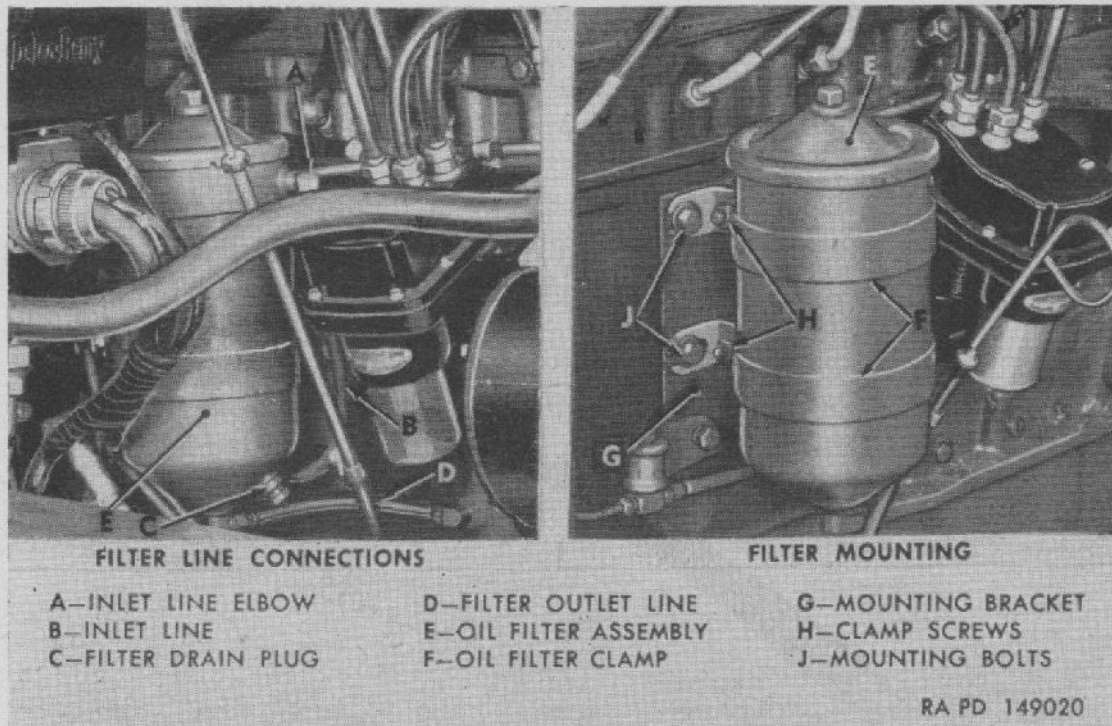

Figure 37. Oil filter installed.
- (13) Fill cooling system (par. 126*a*).
- (14) Check valve clearance at each cylinder with piston on compression stroke (both valves closed). Make initial adjustment of valves before starting engine. Set intake-valve clearance at 0.012 inch and exhaust-valve clearance at 0.020 inch.
- (15) Start engine and run at fast idle until normal minimum operating temperature (160° F) is reached; then check cylinder head bolt tension ((2) above).
- (16) Make final check of valve clearance; adjust if necessary and install valve cover (par. 94*d* and *e*).
- (17) Install eye nut and lock washer on cylinder head special bolt.
a. GENERAL (fig. 37). Replacement-element type oil filter is mounted on bracket at right side of engine to rear of ignition distributor. Two band-type clamps attach filter to mounting bracket. A limited quantity of engine oil enters filter through inlet line which is connected to oil gallery at left side of engine. Filtered oil is returned to engine crankcase through filter outlet line installed between fitting at bottom of filter and fitting at engine crankcase. Filter housing is fitted with drain plug.
c. FILTER REMOVAL (fig. 37).
- (1) Remove drain plug from filter and drain out oil.
- (2) Disconnect inlet and outlet lines at fittings on filter.
- (3) Remove four filter mounting bolts. Remove filter and clamp assembly from engine.
- (4) To remove clamps from filter, loosen clamp screws and slide clamps off lower end of filter housing.
- (5) Remove two filter bracket-to-cylinder-block bolts at lower edge of bracket. One bolt also holds oil-pressure-sending-unit bracket and other holds oil-level-gage-tube bracket. Remove governor line clip from top of bracket. Remove filter bracket and push rod cover screws at top of bracket and remove filter bracket from engine.
d. **FILTER INSTALLATION** (fig. 37).
- (1) Hold oil filter mounting bracket at side of engine and install bracket and push rod cover screws and lock washers at top of bracket. Attach governor line clip at top of bracket.
- (2) Insert oil-pressure sending unit and filter bracket bolt with lock washer into place and screw bolt into boss at cylinder block. Insert bolt with lock washer through oil level tube bracket and oil filter bracket and screw bolt into tapped hole at crankcase. Tighten bolts firmly.
- (3) Assemble clamps on filter housing and tighten clamp screws to hold clamps in place.